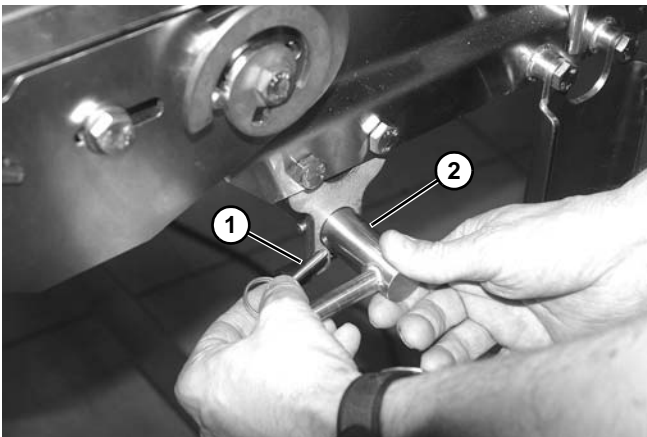

Figure 41
3. Install pull pin (**Figure 41, item 1**) onto scraper shaft (**Figure 41, item 2**).